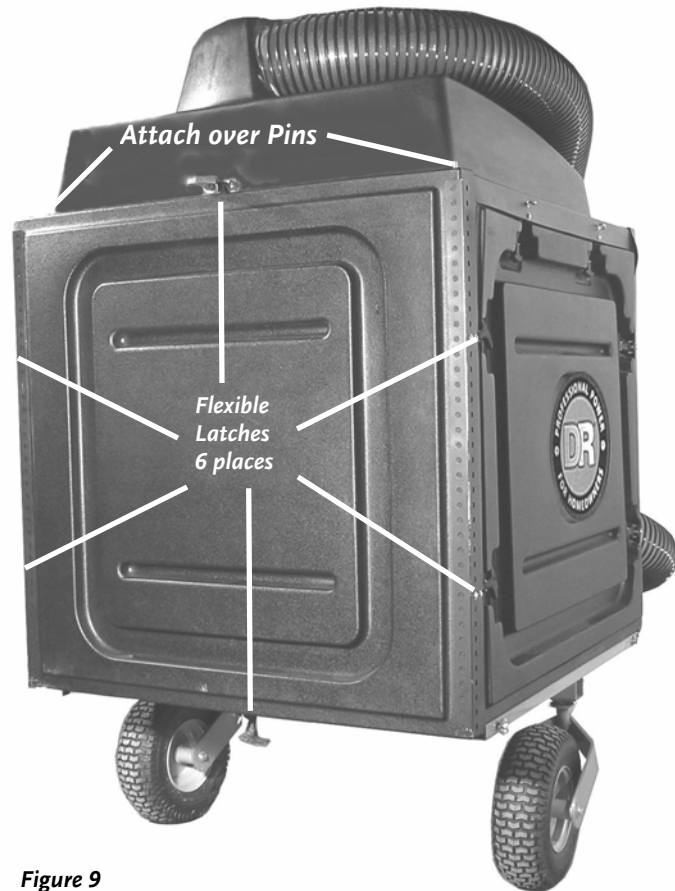

Figure 9
- Lower the bed and secure in place with the Dump Latch (**Figure 4** on page 14). Attach the rear panel on the protruding pins and secure in place with the six (6) flexible latches (**Figure 9**).